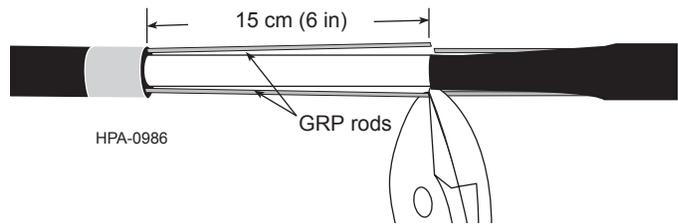

Figure 23
Step 9: Use side cutters to cut the GRP rods 15 cm (6 in) from the tape wrap (Figure 23).